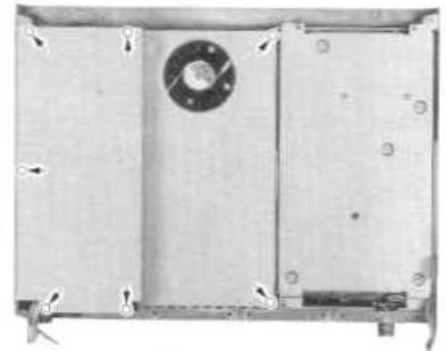

Figure 9
- 10) Remove the seven screws from the shield cover on the inside of the heatsink, as shown in Figure 9.